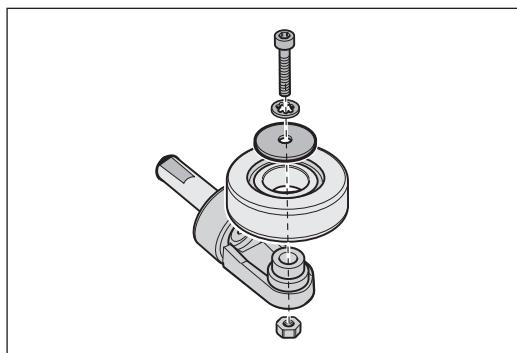

Fig. 55 Remove the screw with the washers and nut in the centre of the wheel and take off the rear wheel.
- 6 Release the screw in the centre of the wheel and remove the screw, washers and nut (Fig. 55). Ensure that you do not lose the nut.**